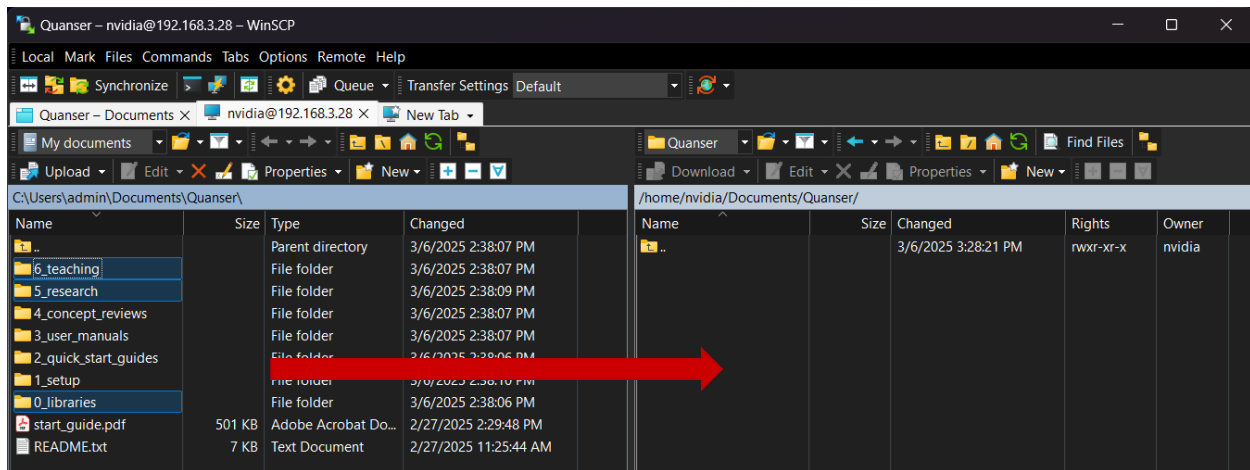

Figure 4. Transferring files to QCar
1. Make a directory on the QCar for Quanser resources where files will be transferred to and from. We recommend creating a folder called Quanser under Documents. The following directory should now exist: **/home/nvidia/Documents/Quanser**. To connect to the QCar2 and create this directory, we recommend using WinSCP, as shown in figure 4. (see the User Manual - Connectivity for how to remotely connect to the QCar).
2. Using WinSCP, on your PC side, navigate to **Documents/Quanser**. On the QCar 2 side, navigate to your new *Quanser* folder. Your WinSCP window should look like figure 4. From your PC side, copy/drag the **o_libraries**, **5_research** and **6_teaching** folders over to your new Quanser folder in the QCar2.